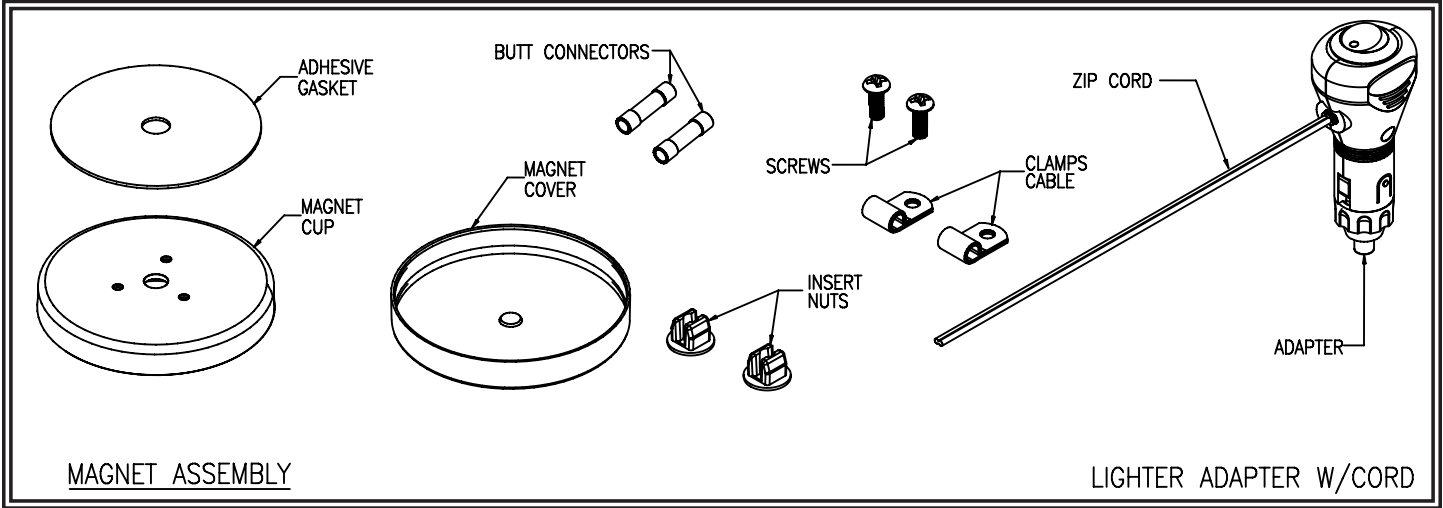

Figure 1
2. Peel off protective paper from one side of adhesive gasket and apply to back of magnet cup. See Figure 1.